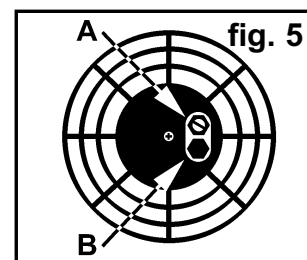

fig. 5
The heater has been factory pre-set for paraffin and will produce the correct heat output when first used from new. You should run the heater at the pre-set output in order to ensure the long life, safety and reliability of the unit. Minor adjustments to heat output may be required during the first 60 hours of use. These adjustments are made to the air pressure valve (see fig.5.A). Once the unit has completed the running-in period it should not be necessary to alter the air pressure again until a new air filter is fitted or a change of fuel takes place.
- 5.1.4. To adjust the heat output, locate the air pressure valve (fig.5.A), which is in the centre portion of the air inlet grill at the back of the unit. Hold the adjusting screw steady with a screwdriver and loosen the locking nut. Turn the screw clockwise to increase the air pressure and thus increase the heat output. Turn the screw anticlockwise to decrease the air pressure and thus decrease the heat output. Make small adjustments only and give the heater time to stabilise before observing the effect on the colour of the dome. When the colour is normal as described above in section 5.1.3.(a) tighten the locking nut.
- 5.2.3. You will need to make a preliminary adjustment to the air pressure valve before turning the heater on. Locate the valve (fig.5.A) which is in the centre portion of the air inlet grill at the back of the unit. Hold the adjusting screw steady with a screwdriver and loosen the locking nut. Turn screw half a turn anticlockwise to decrease the air pressure, and thus decrease the heat output, to compensate for the hotter burning diesel fuel. Retighten the locking nut.
5.4.1. If there is any doubt about the efficient operation of the heater, the air pressure should be checked more exactly using a pressure gauge which will measure up to 30 p.s.i. and has a 1/8" BSP thread. With the heater turned off and unplugged from the mains, remove the threaded plug from below the air pressure valve and attach the gauge, see fig.5.B. Start the heater and compare the pressure reading with the chart shown on the right. If the reading differs from the chart this indicates that maintenance is required as laid out in Section 6. You should also investigate whether the environmental conditions at the location of the heater are suitable, with particular reference to the amount and quality of the air supply.